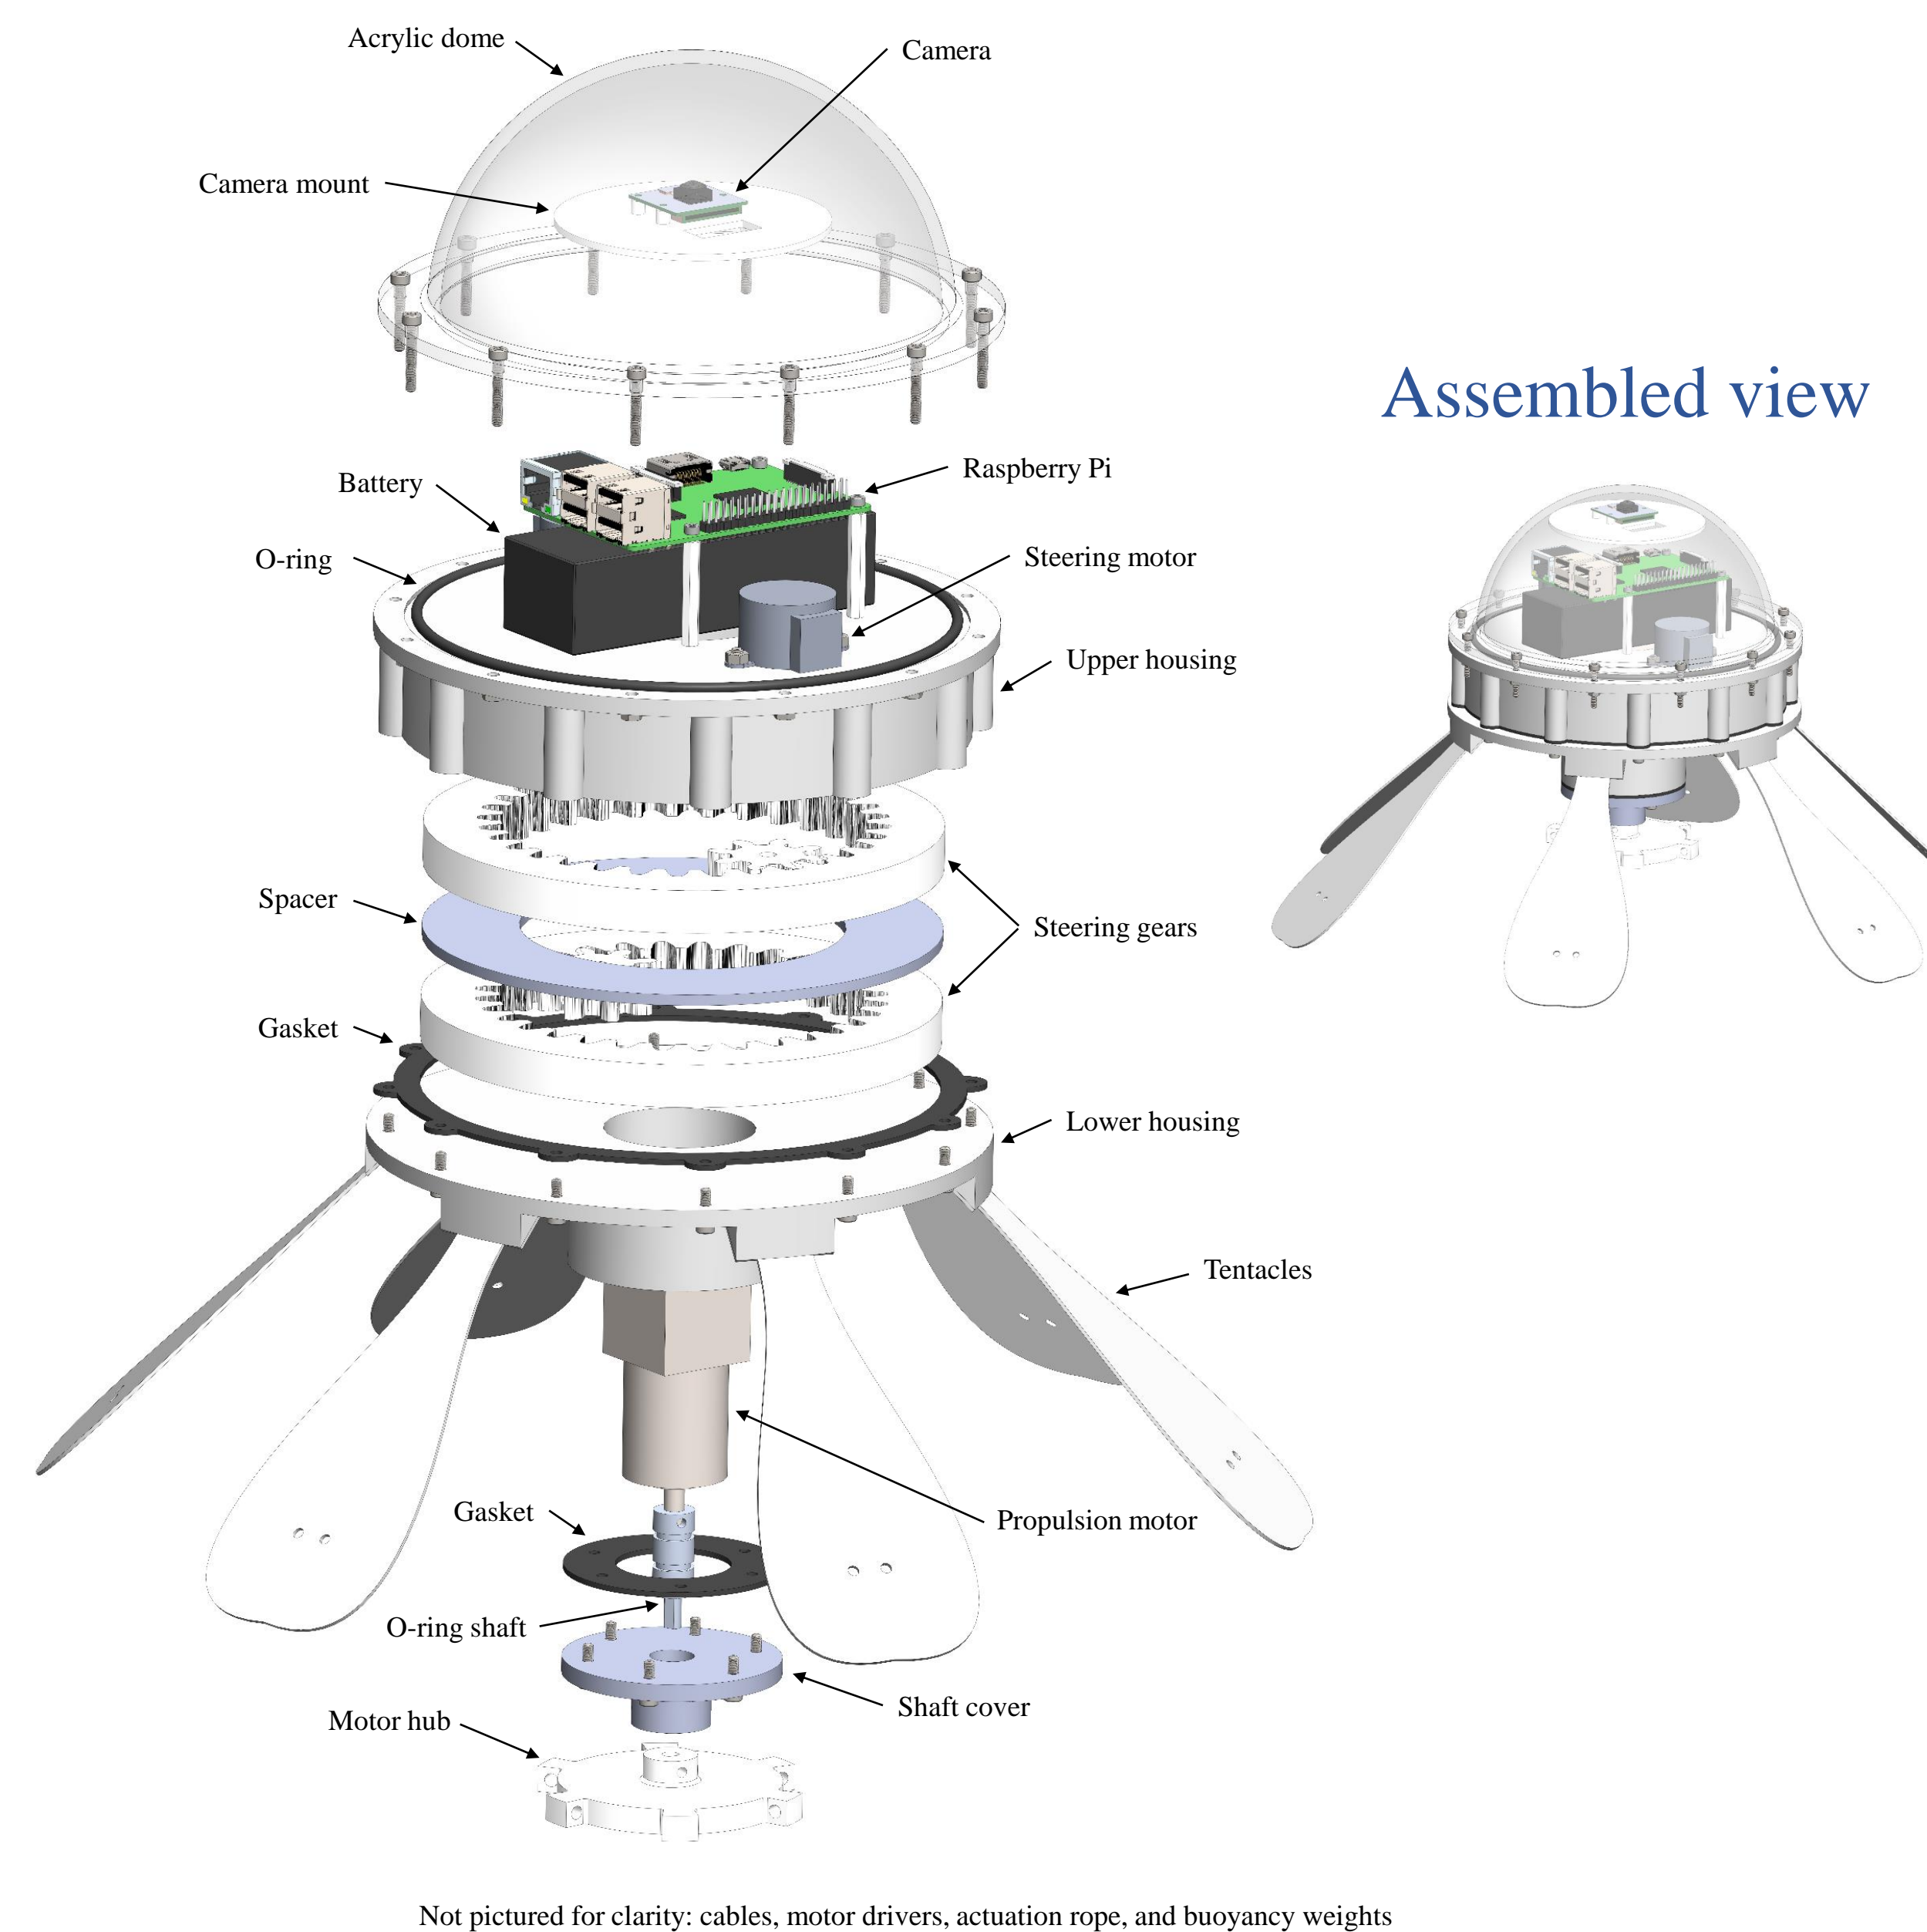

Figure 4: Overall design of the AUV
*Characteristics:* three static housing seals and one dynamic rotation seal, assembled as seen in Figure 4